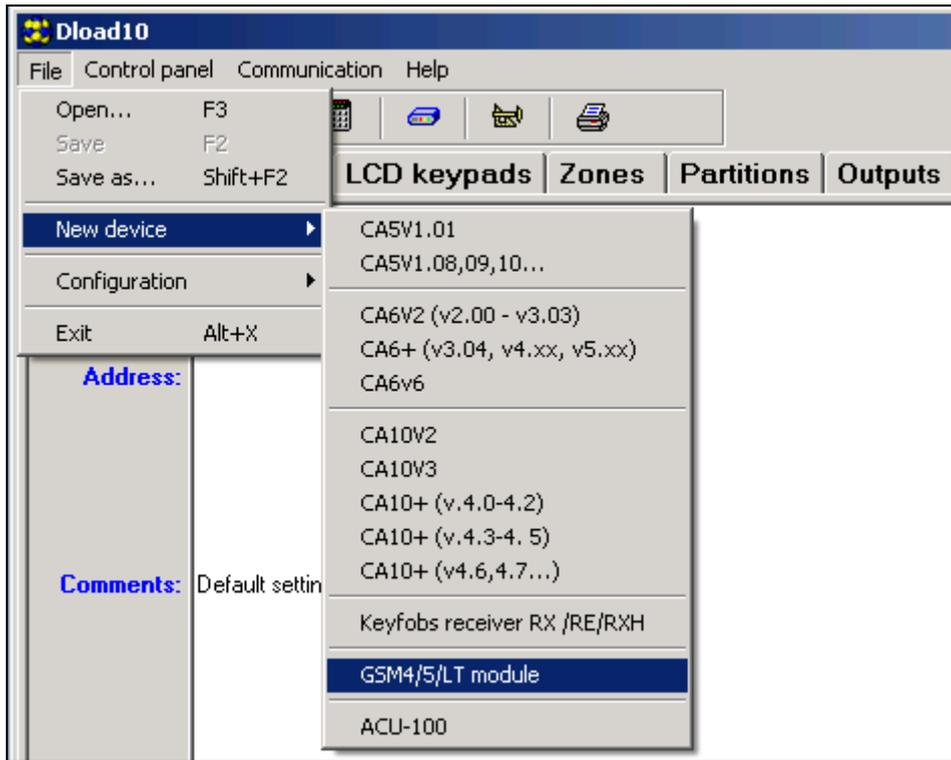

Fig. 11. Selecting the GSM module after starting the DLOAD10 program.
2. In the DLOAD10 program, "File" menu, first select "New device", and then "GSM-4/5/LT module" (see: Fig. 11).